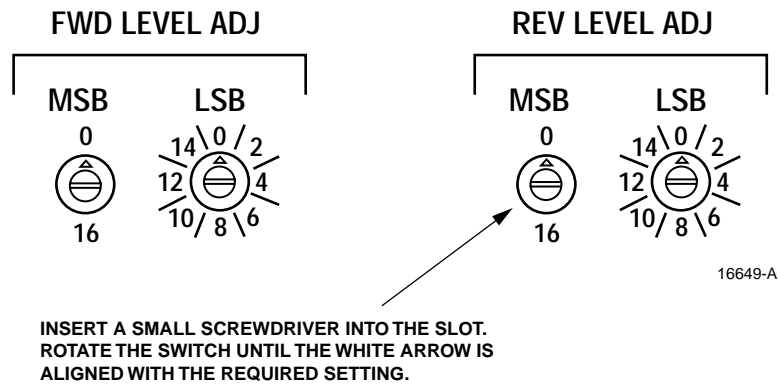

Figure 14. Rotary Switch Adjustment
8. Using a small screwdriver, adjust the FWD LEVEL ADJ rotary switches to insert the gain required (as determined in step 7) to provide a -20 dBm signal at the DHU. Refer to Figure 14 for a description of how the rotary switches work and to Table 4 for the adjustment settings.
5. Using a small screwdriver, adjust the REV LEVEL ADJ rotary switches to insert the gain required as determined in step 4. Refer to Figure 14 for a description of how the rotary switches work and to Table 4 for the adjustment settings.